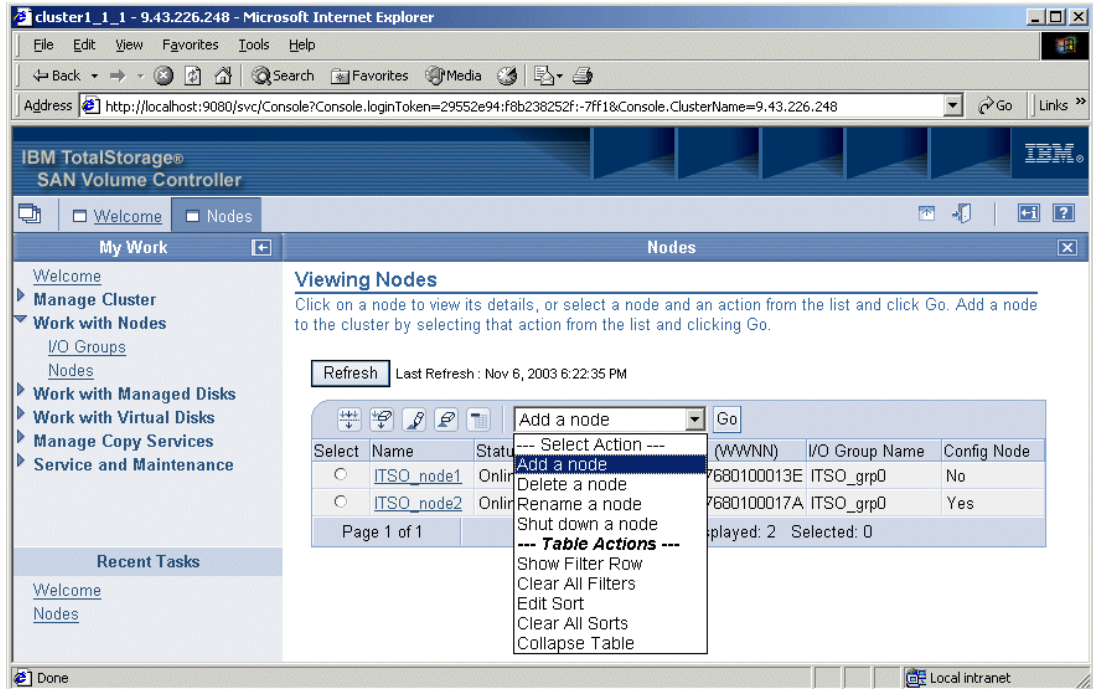

Figure 9-20 Viewing Nodes
This section discusses the tasks that you can perform on a node level. You perform each task from the Viewing Nodes panel (Figure 9-20). To access this panel, from the SVC Welcome page, select the **Work with Nodes** options and the **Nodes** link.
1. From the Viewing Nodes panel (Figure 9-20), click the highlighted name of the node.
1. From the Viewing Nodes panel (Figure 9-20), select **Add a node** and click **Go**.
1. From the Viewing Nodes panel (Figure 9-20 on page 233), select the radio button to the left of the node you want to delete. Select **Delete a node** from the list and click **Go**.
1. From the Viewing Nodes panel (Figure 9-20 on page 233), select the radio button to the left of the node you want to rename. Select **Rename a node** from the list, and click **Go**.
1. From the Viewing Nodes panel (Figure 9-20 on page 233), select the radio button to the left of the node you want to shut down. Select **Shut down a node** from the list. Click **Go**.